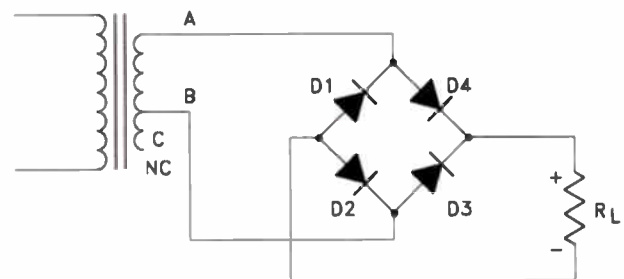
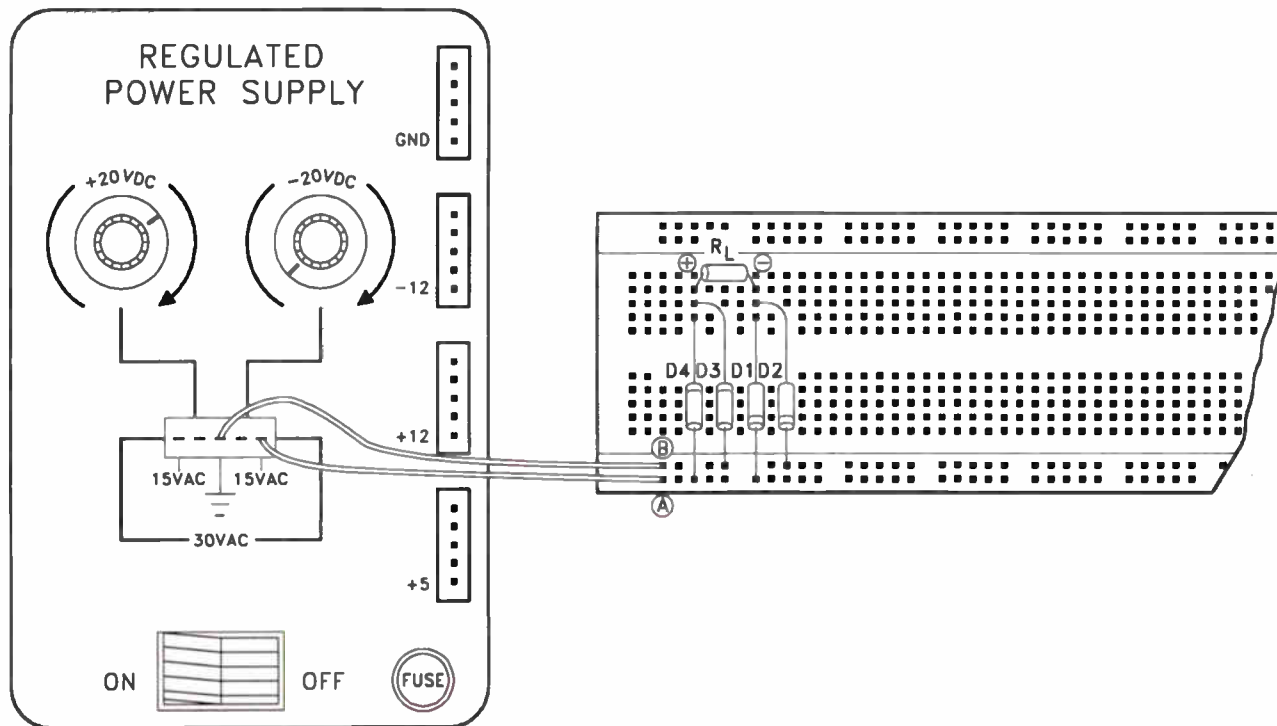

Figure 2-1. Schematic of the full-wave bridge rectifier.
Figure 2-2. Wiring the full-wave bridge rectifier.
Add a full-wave bridge rectifier to the power transformer as Figure 2-1 shows in schematic form. All rectifier diodes are 1N4002 or equivalent and are rated at 1 amp (A), 100 volts (V) piv. Place the components as shown pictorially in Figure 2-2.